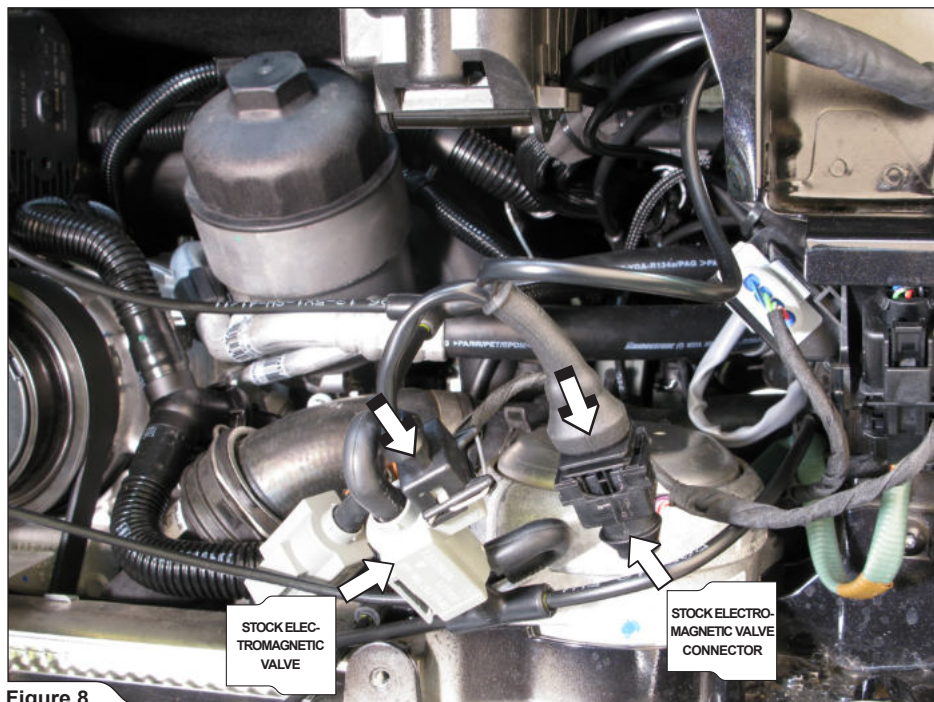

Figure 8
7. Correctly connect the shorter pair of Akrapovič wireless connectors between the stock electromagnetic valve and stock valve's connector, as shown (Figure 8).